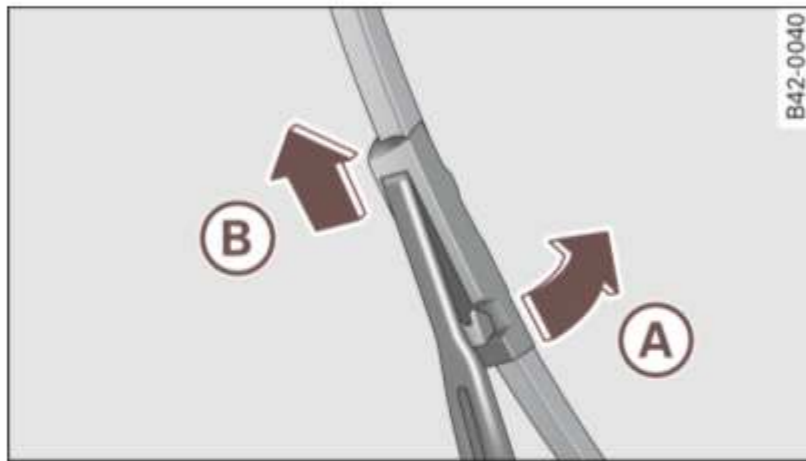

Fig. 50 Removing wiper blades
- Rotate the wiper blade in the direction of the arrow **(A)** ⇒ *fig. 50* away from the wiper arm.
- Place the rounded end of the wiper onto the end of the wiper arm in the **opposite** direction to the arrow **(B)** ⇒ *fig. 50*.